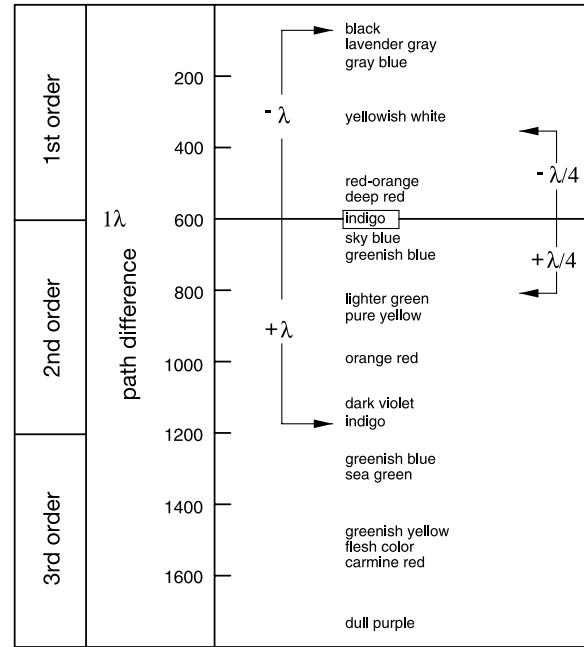

Fig. 4-9 Diagram of the color tables according to Michel-Lévy
- Now turn the stage by approx. 45° until the longitudinal axis of the fiber is pointing in NE-SW direction (Fig. 4-9). The sample now shows the strongest brightness (diagonal position). The sample can have any color in this position.
The color grey-white which occurs in the bright position as was discussed in the example above, corresponds according to the Michel-Lévy color table (Fig. 4-9) to a phase difference of 150 nm